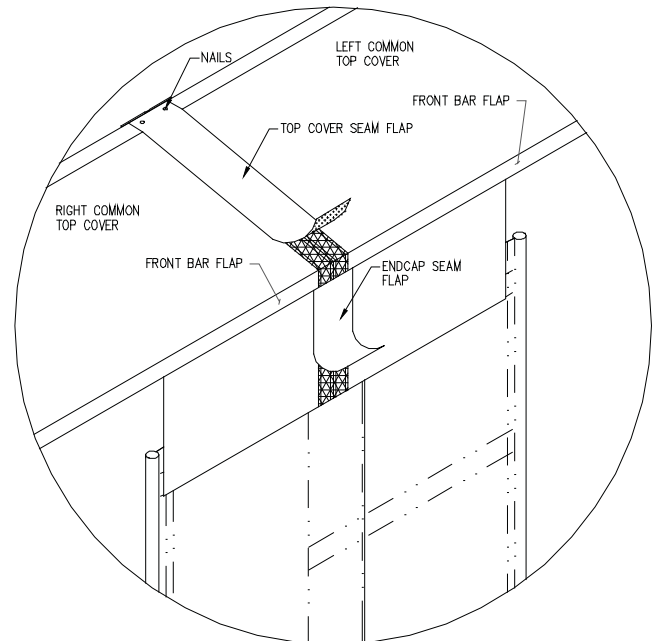

FIGURE 10
10. Attach the endcap seam flap. (See Figure 10) Do this by centering it between the two vertical velcro strips sewn on the endcaps front face. Starting at the bottom, align the seam flap to the bottom of the endcap and go up. Do not lay seam flap completely flat, but allow some slack between the velcro seams for header movement. The seam flap should tuck under the front bar flaps on canopy covers. The face curtains will mount under the front bar flaps, but over top of the endcaps and the seam.
12. Attach the top cover seam flap. (See Figure 10) This seam flap needs to go from the canopy back edge at wall, and follow the velcro on the top cover down and over front bar flap. Do not lay seam flap completely flat, but allow some slack between the velcro seams for header up and down movement. The end of the seam flap should end up even with the edge of the front bar flap. Adjust and trim at building wall if necessary.
13. Nail the back of the top cover seam flap at the building wall. Put (1) nail on each side into the header backer boards of each canopy. (See Figure 10)